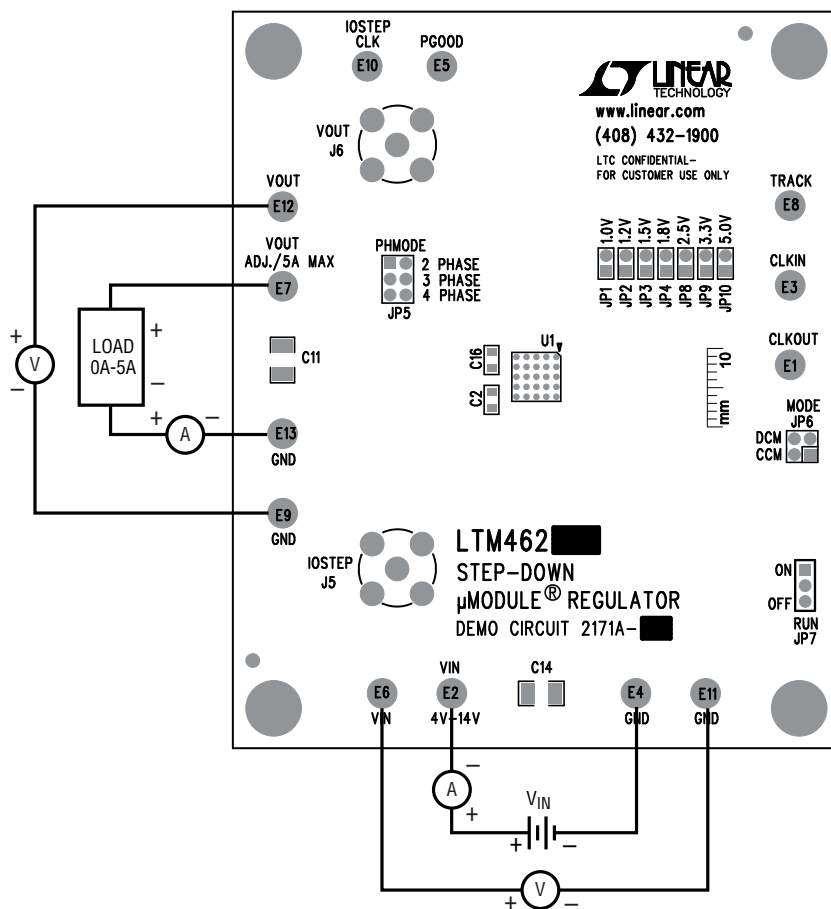

Figure 1. Test Setup
Demonstration circuit 2171A-A is an easy way to evaluate the performance of the LTM4623. Please refer to Figure 1 for test setup connections and follow the procedure below.
3. With power off, connect the load, input voltage supply and meters as shown in Figure 1.